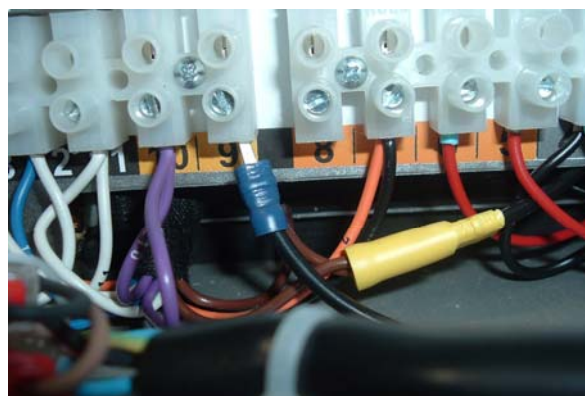

fig.2 – Terminal wiring connections
7. Locate and position the **BLACK** wire from the relay and using an electrical screwdriver, secure into terminal 2 of the terminal rail. (see fig.2)